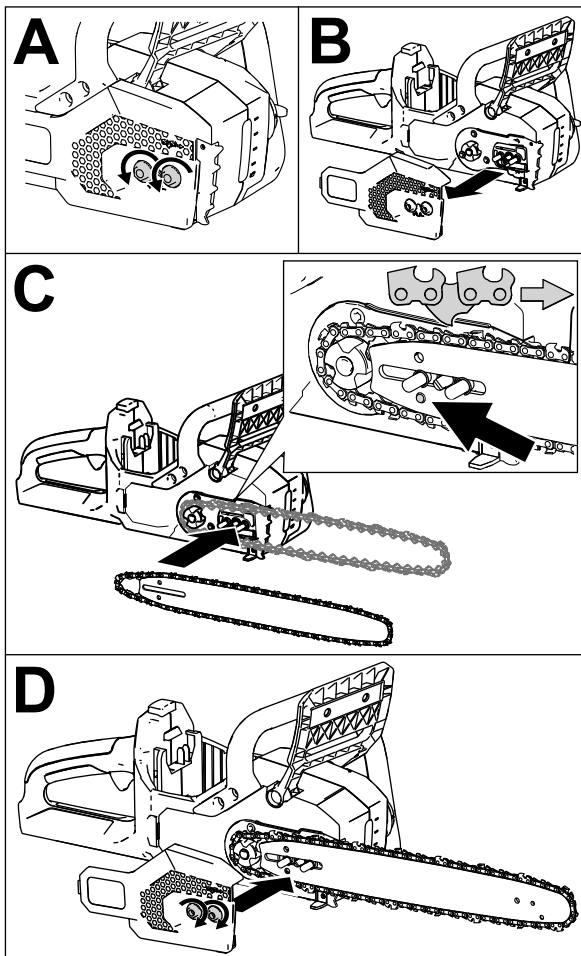

Figure 34
1. If the side cover is installed to the machine, loosen the 2 captive nuts securing the side cover to the machine and remove it (A and B of Figure 34).
2. Place the chain around the drive sprocket on the front end of the guide bar, **with the cutting edge of the chain teeth on the top of the bar facing forward** as shown in the diagram on the side cover of the chain saw (C of Figure 34).
4. Position the open loop of the chain (not on the guide bar) around the drive sprocket on the chain saw and install the guide bar and attached chain onto the chain saw as shown in C of Figure 34.
Important: Ensure that the chain adjusting stud is inserted into the hole indicated by the arrow in C of Figure 34. You may need to rotate the chain tensioning knob to fit the stud into the hole in the guide bar.
5. Install the side cover, but do not fully tighten the captive nuts (D of Figure 34).